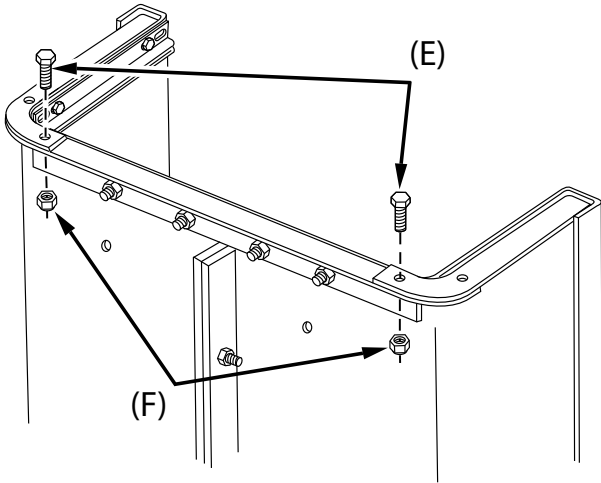

Figure 4
STEP 4 (SEE FIGURE 4): Attach the rear angles (2 & 3) to the lower rear angle (4) using two 1/4" x 3/4" hex bolts (E) and 1/4" nylock nuts (F). **Do Not Tighten!**